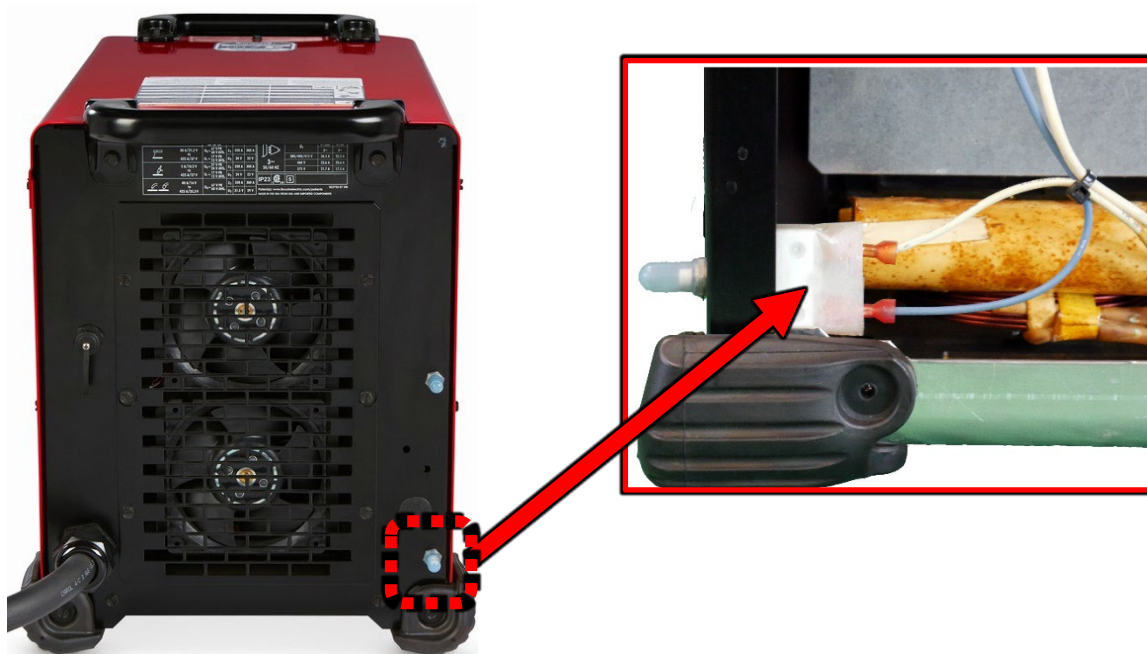

Figure F.1
1. For location of CB2 refer to Figure F.1.